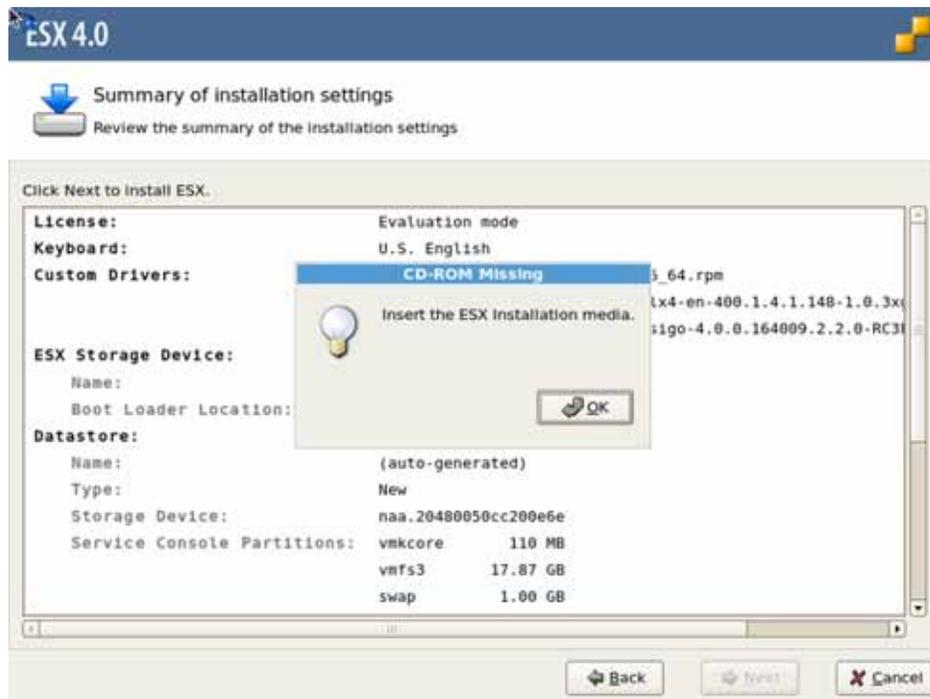

Figure 32 ESX Installer — Insert the Installation Medium
Step 21 Reconnect to the ESX Installer (or re-insert the physical medium if you are installing from DVD). If you see the popup shown in Figure 32 on page 108, you must reconnect to (or re-insert) the ESX installer DVD.